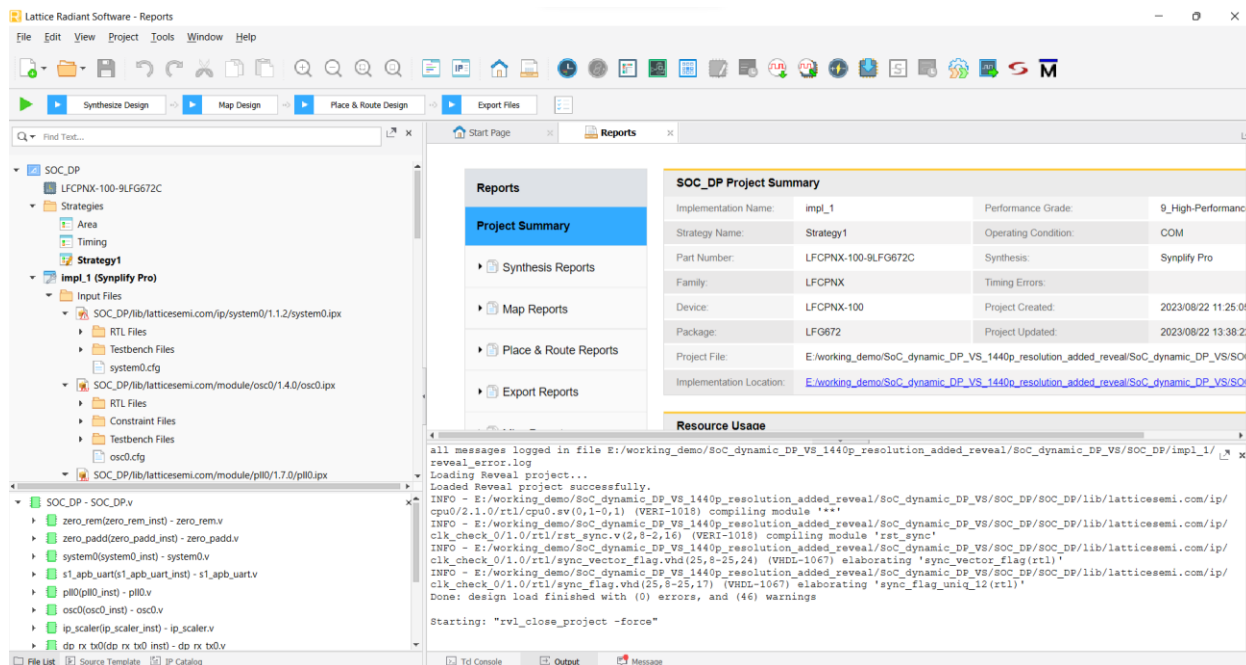

Figure 3.9. Radiant Project
- Lattice Radiant is launched with a Radiant project generated for SoC at background as shown in Figure 3.9.